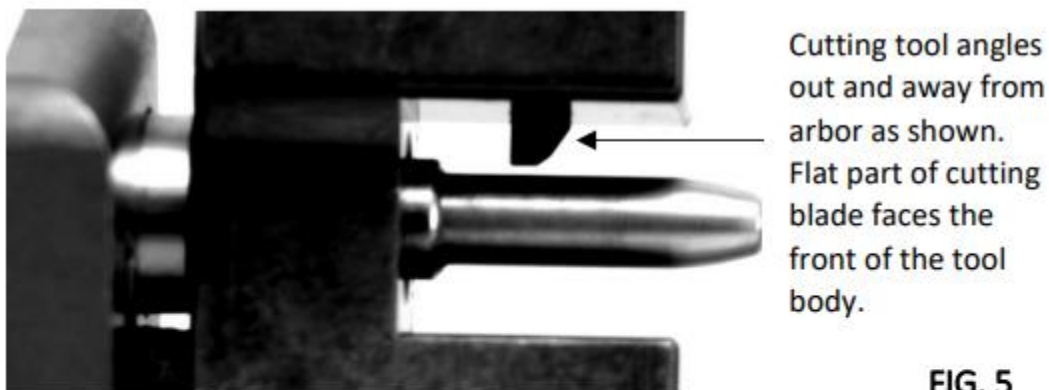

FIG. 5
6. Reinsert Cutting Tool Assembly into tool body. Ensure the flat on the cutting tool holder faces the Cutting Tool Assembly alignment screw on the front of the tool body (FIG. 5).